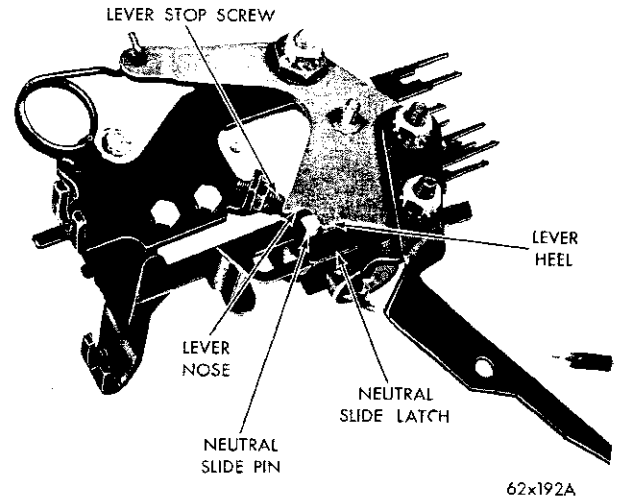

Fig. 13—Adjusting Lever Heel to Neutral Slide Pin Clearance
(2) Hold the neutral slide in against the rocker bar with about 5 to 10 pound load.
(3) Loosen the lock nut and rotate the cam so the lever nose just touches the neutral slide pin as it passes over the pin when moving the parking lock lever from the OFF to ON position. Only light contact should occur so the lever does not hang up on the pin. Hold the cam in this position and tighten the lock nut to 95 inch-pounds torque. Install overcenter spring.
(4) Adjust the lever stop screw to obtain .010 inch clearance between the neutral slide pin and the lever heel (Fig. 13). Tighten the lever stop screw lock nut securely.